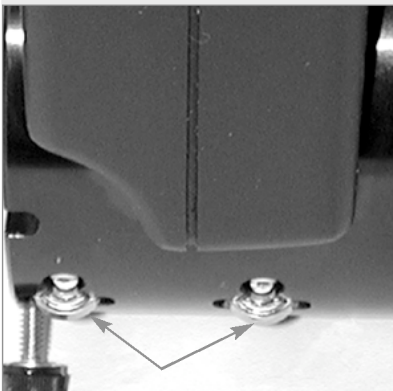

Fig. 32: Microfocuser ball bearings.
- h. The microfocuser is carefully adjusted at the factory. If it becomes necessary to adjust the microfocuser ball bearings (see **Fig. 32**), it must be performed by factory trained technicians. If the microfocuser is improperly adjusted, performance will degrade and damage will result. Damage due to improper adjustments not authorized by the factory will not be covered under warranty.